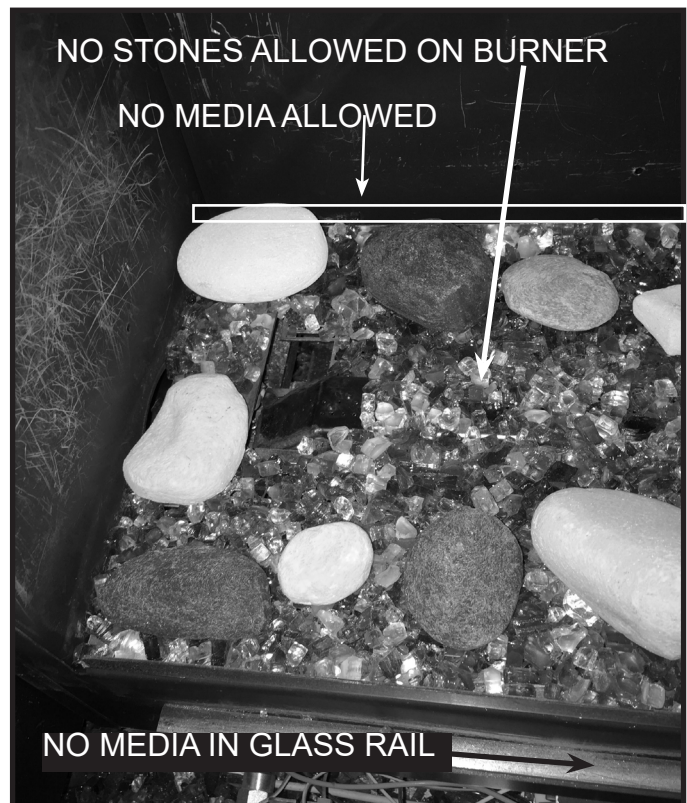

Figure 7. Stones Not Allowed on Burner
2. Place desired number of stones anywhere except on the burner. See Figure 7.
6. Remove any glass media that may have fallen in the bottom glass rail. Glass will not install properly if media is present in glass rail. See Figure 7.